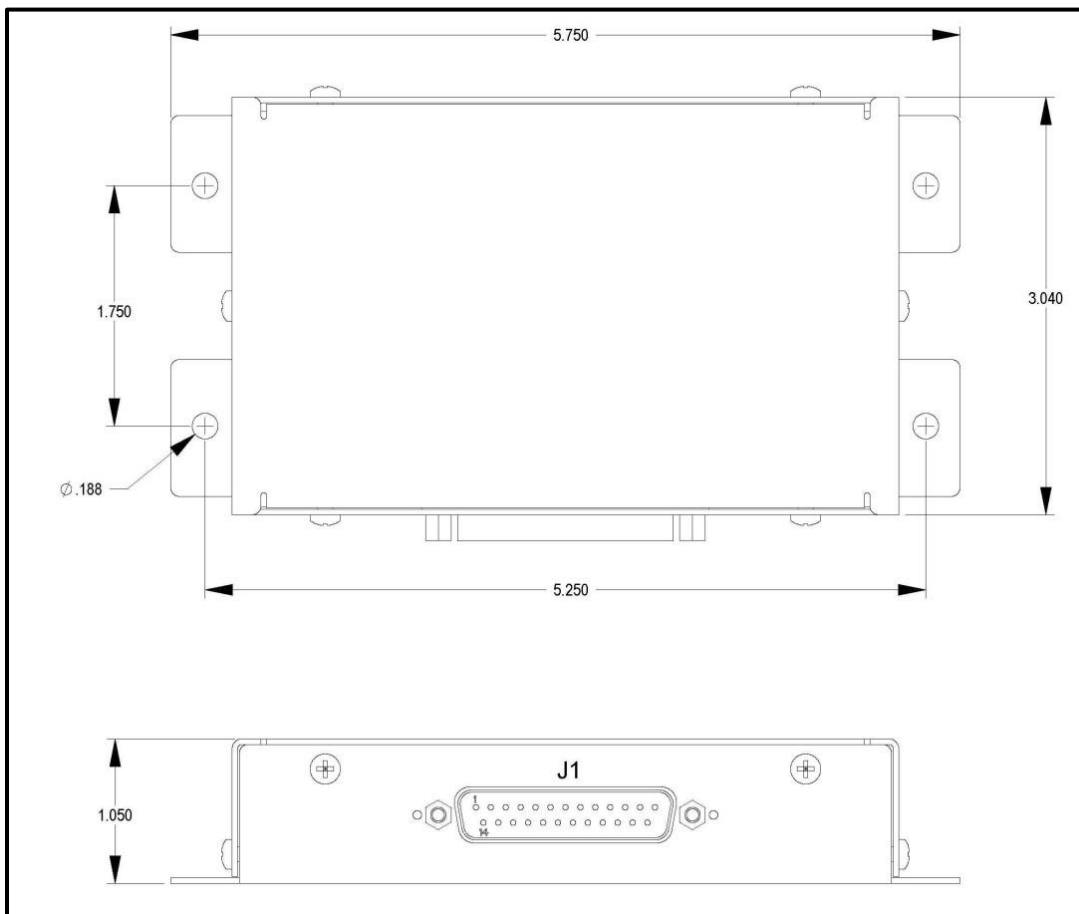

Figure 1 Audio Mixer Dimensions
- 5.6 Refer to Figure 1 for Audio Mixer reference dimensions that may be used when planning the installation.